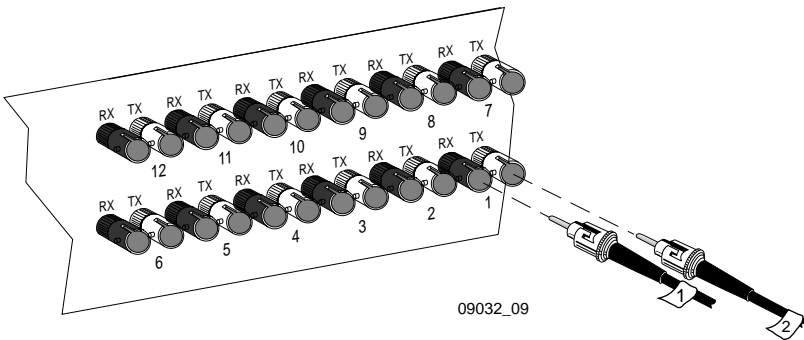

Figure 5-1 SEHI-22FL Network Ports
2. Attach the fiber labeled 1 to the applicable **RX** port, on the SEHI. See Figure 5-1.